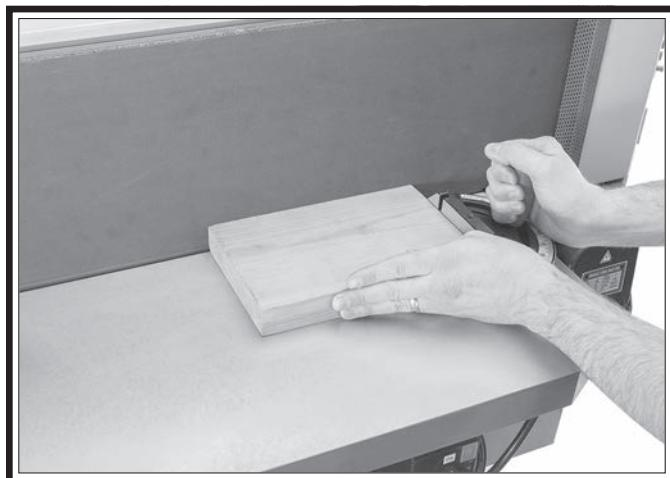

Figure 47. Typical edge sanding operation.
3. Support workpiece against miter stop and slowly feed workpiece into moving belt with light, even pressure. Maintain control of workpiece, as shown in **Figures 47–48**. DO NOT force workpiece against belt.